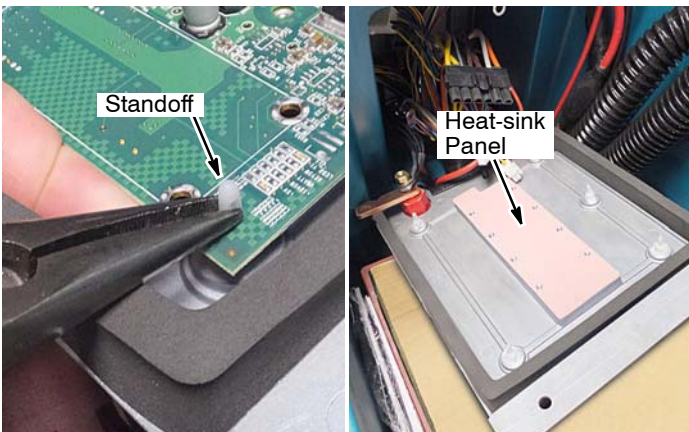

Fig. 6
- Remove the defective control board from the heat-sink panel. The control board is mounted to the heat-sink panel with eight torque head screws and six standoffs. Squeeze the standoff flange to release control board from panel (Figure 6).